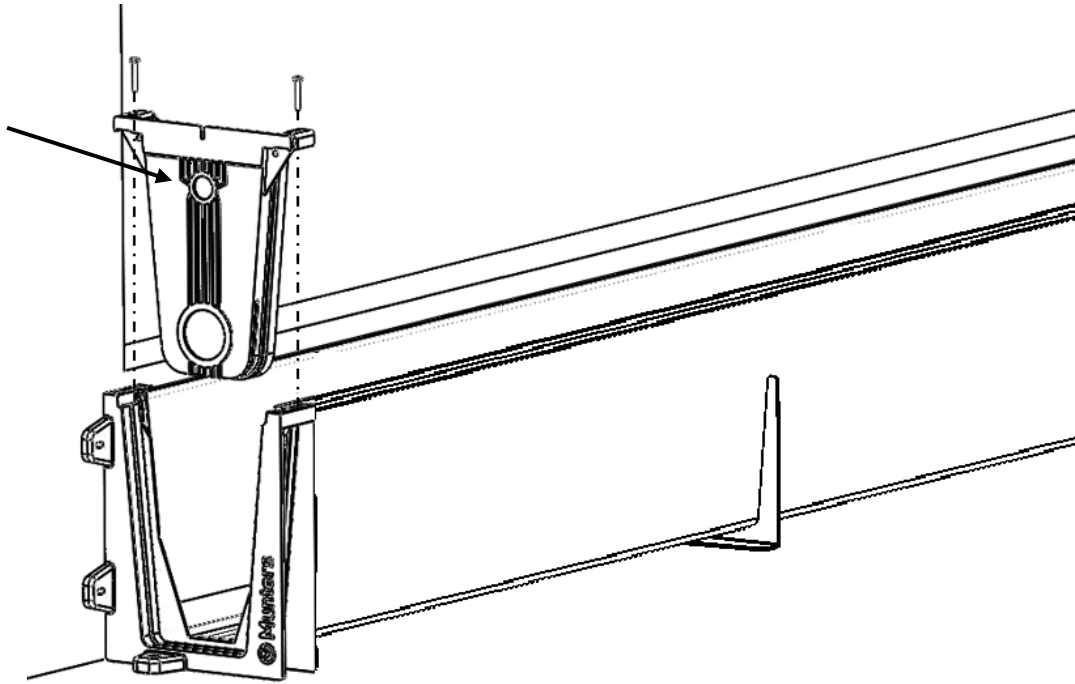

Figure 16
Close the left hand side of the Munters Gutter System installing the Bottom Gutter End Cover [ref. 18] and fixing it to the External Joint Bracket by means of (2 pcs) Screws for thermoplastic [ref. 7]. See Figure 16.